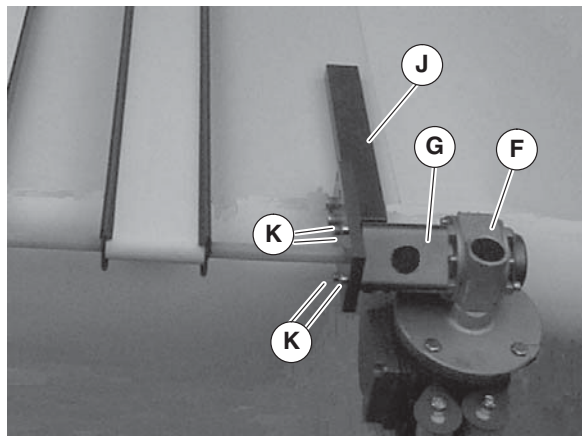

Figure 29
- Attach gearmotor support assembly (Figure 29, item J) and guard tube (G) to gearmotor assembly (F). Tighten screws (K) to 103 in-lb (12 Nm).